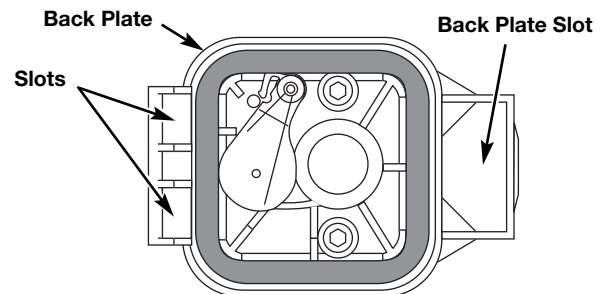

Fig. 27
6. Replace the filter (Fig. 27).